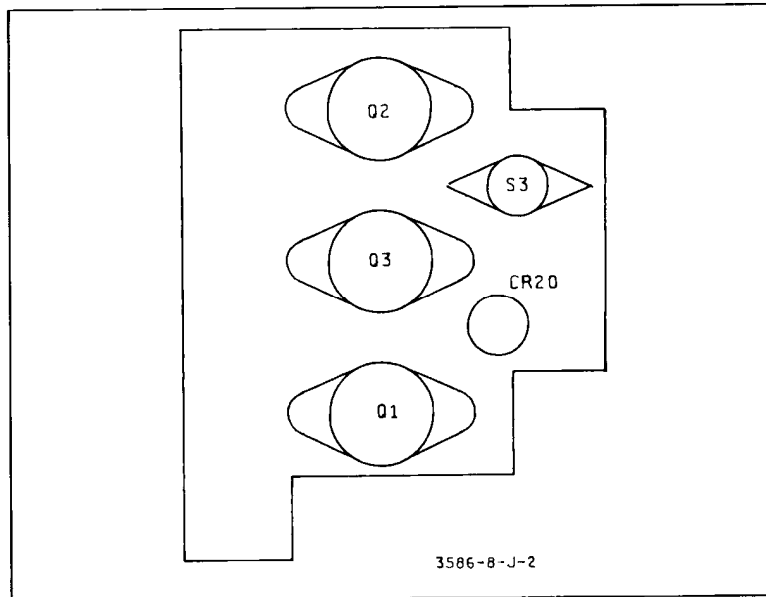

Figure 8-J-2. Darlington Transistor Assembly.
5. Remove the two screws holding the heat shield in place on the assembly for access to Q1, Q2, Q3, CR20, and S3. (See Figure 8-J-2 for component identification.)